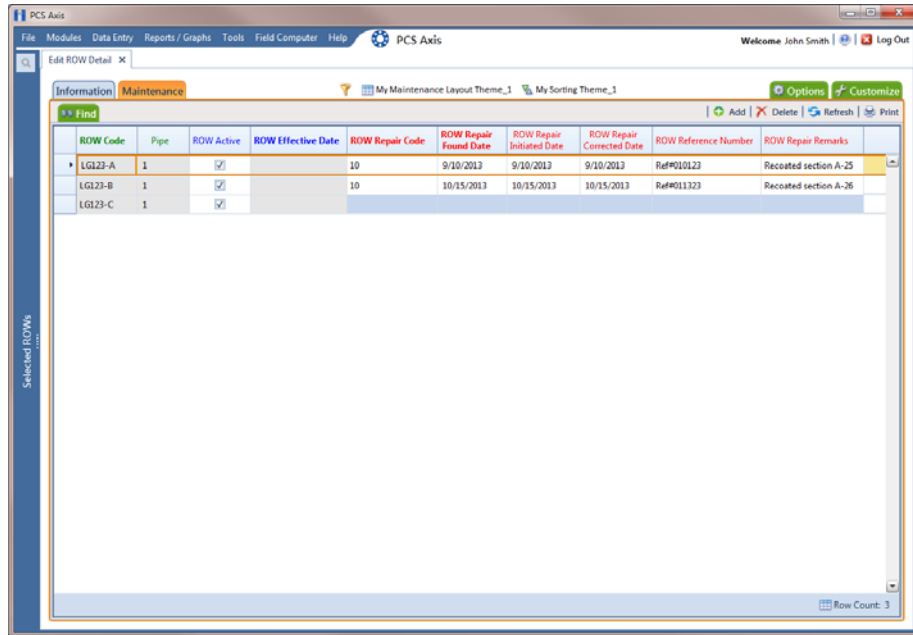

Figure 4-18. Maintenance
- 2 Open *Edit ROW Detail*. Click **Data Entry** > **Edit ROW Detail** (Figure 4-18, page 143).
- Click the **Maintenance** tab **Maintenance** to open the *Maintenance* grid (Figure 4-18).